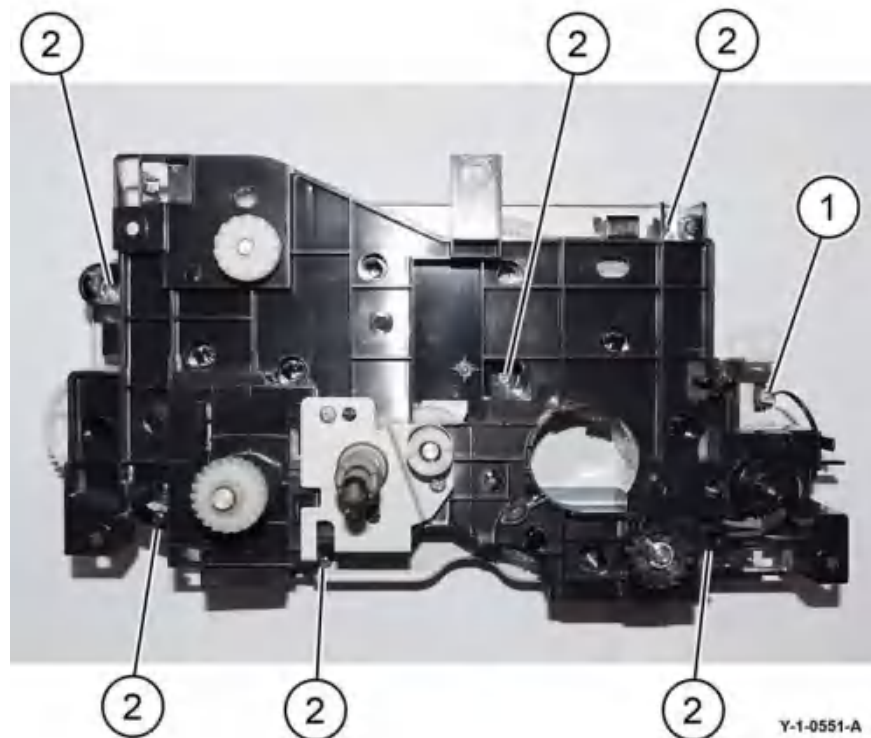

Figure 1 Preparation
2. Prepare to split the drive assembly, Figure 1:
- a. Disconnect the inline connector (1).
- b. Remove six screws (2).